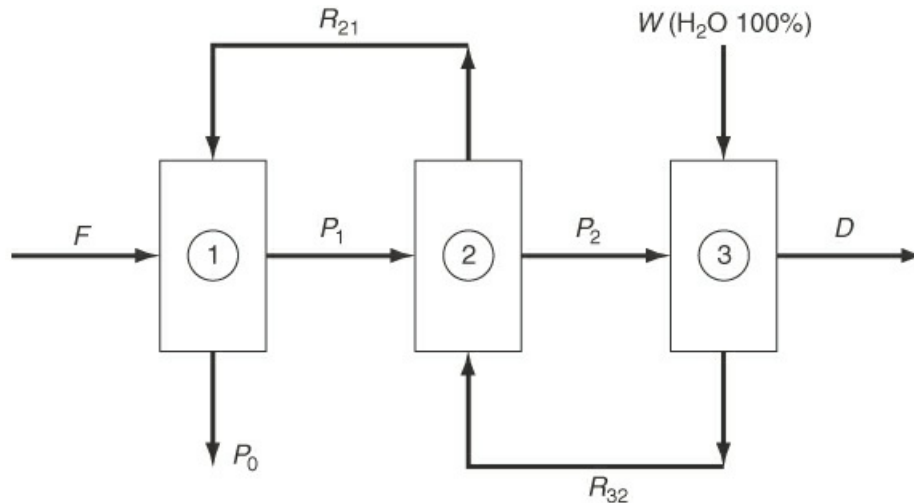

Figure P5.3.14
- ***5.3.14** A plating plant has a waste stream containing zinc and nickel in quantities in excess of that allowed to be discharged into the sewer. The proposed process to be used as a first step in reducing the concentration of Zn and Ni is shown in Figure P5.3.14. Each stream contains water. The concentrations of several of the streams are listed in the table. What is the flow (in liters per hour) of the recycle stream R_{32} if the feed is 1 L/hr?